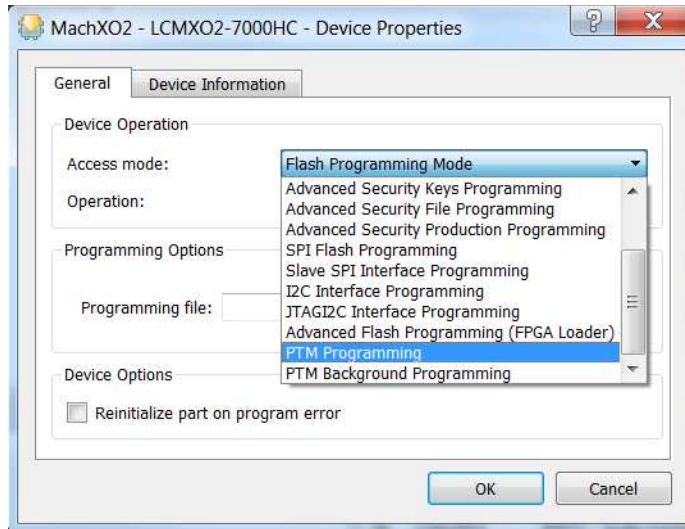

Figure 5.14. ASC Socket – Device Properties
3. The **Device Properties** dialog box appears as shown in Figure 5.14. In the **Access Mode** dropdown list, select **PTM Programming**. Note that in the main interface, **PTM Bypass** is indicated under **Operation**.